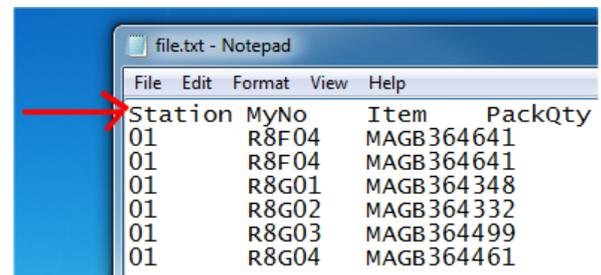

Fig 2
- See Header example right in (Fig 2) of text flat file.